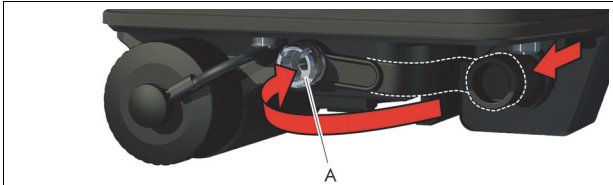

Fig. 3.e - Remove and store the protection cap
- Insert the control cable connector into the FN® FCU Mk3 connector interface while aligning the white dots (see Fig. 3.f).